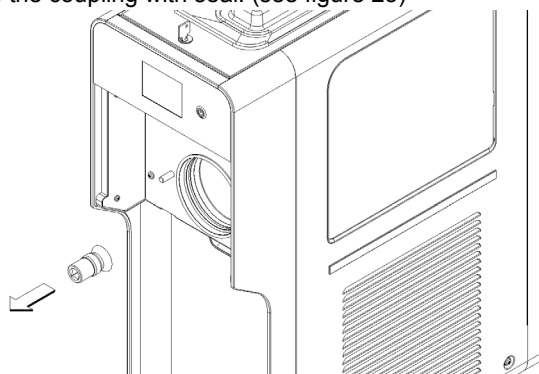

figure 25
10 Remove the coupling with seal. (see figure 25)
- 2 Lubricate the tap piston, the scraper fitting and the front of the scraper in the points indicated in Figure 25 using only the grease provided with the machine or other grease for foodstuff.